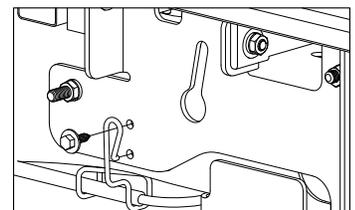

Figure C9: View from outside of Driver Side Frame.
- 6. Replace cable bracket.** If the brake cable bracket was removed at the beginning of the side plate installation, replace it onto the drivers side plate using the M8 bolt that was originally in the frame, See Figure C9.